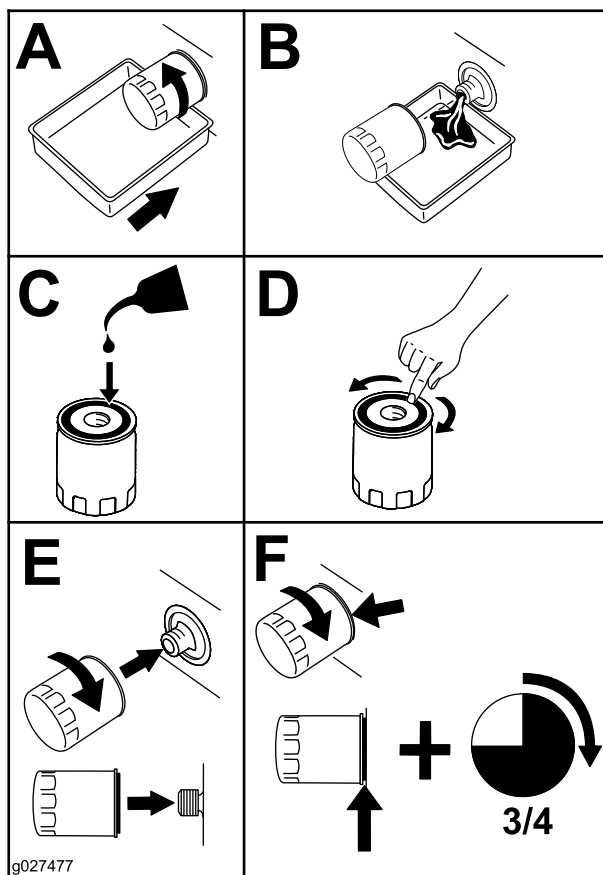

Figure 48
- Change the engine-oil filter (Figure 48).